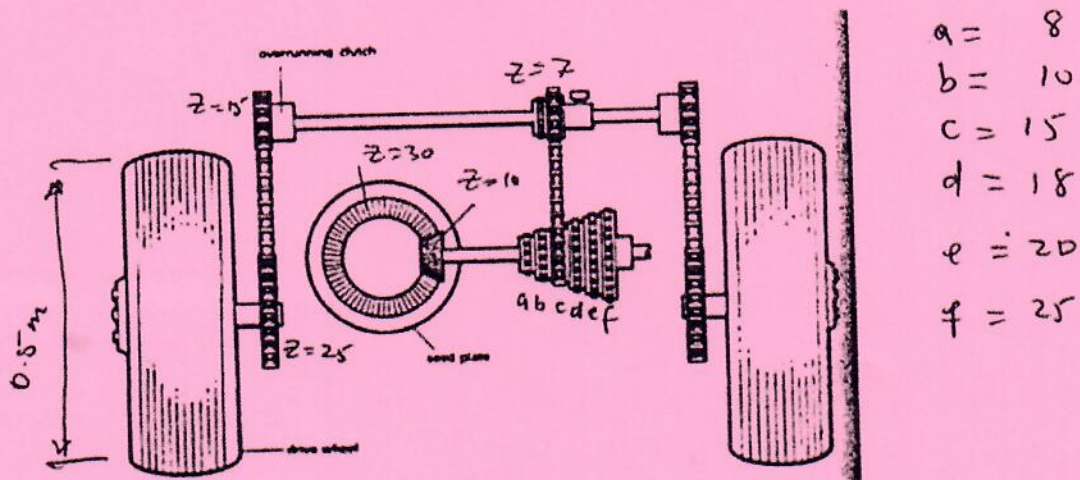

Figure 3 Drive mechanism for metering system of a planter
- b) Given the planter layout shown in Figure 3, and assuming the use of a 16 cell seed plate, determine the average seed spacing achieved when: